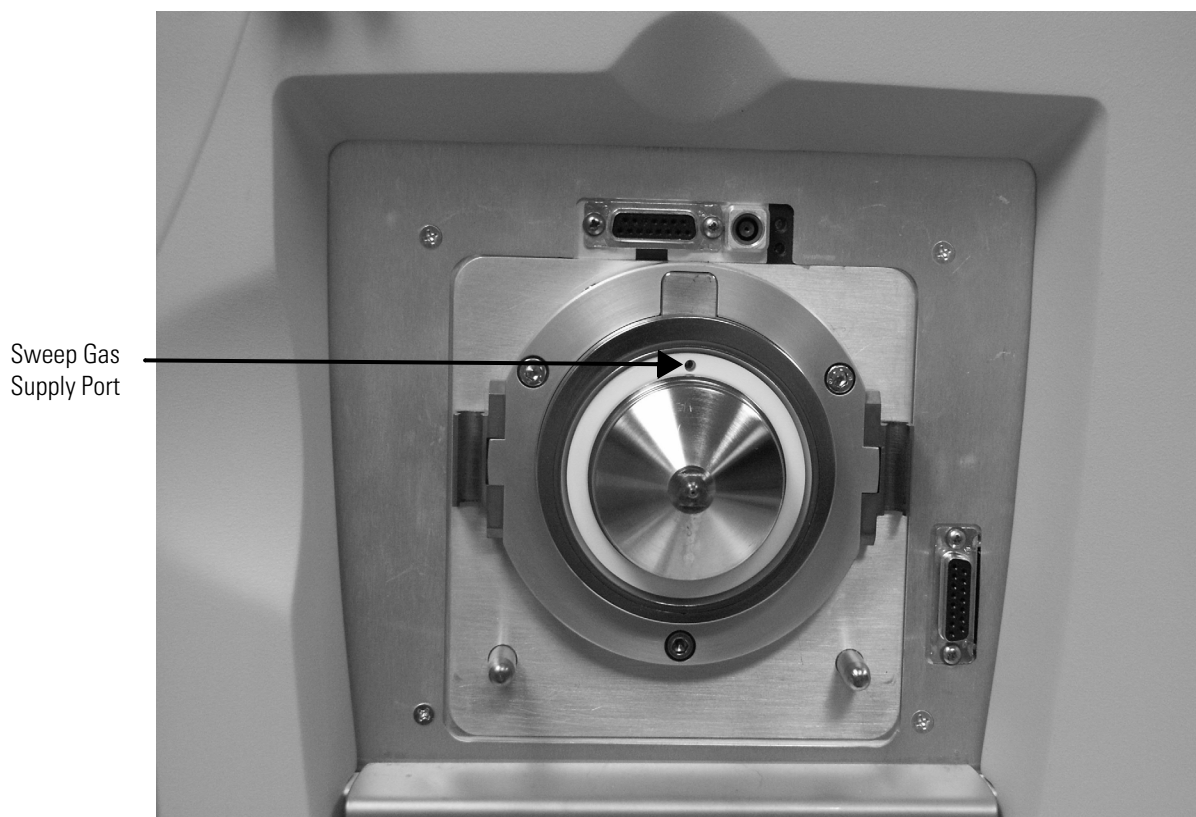
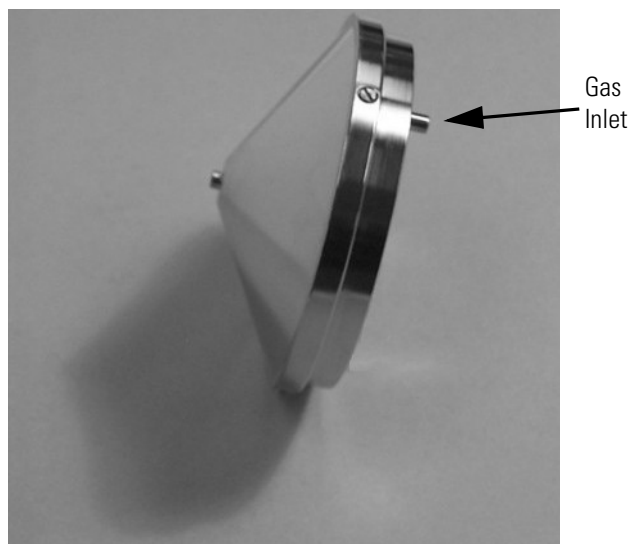

Figure 9. Sweep gas supply port in the API cone seal
Figure 10. Ion sweep cone, showing the gas inlet
2. Note the location of the sweep gas supply port in the API cone seal. The gas inlet on the ion sweep cone is placed in this port. See Figure 9 and Figure 10.